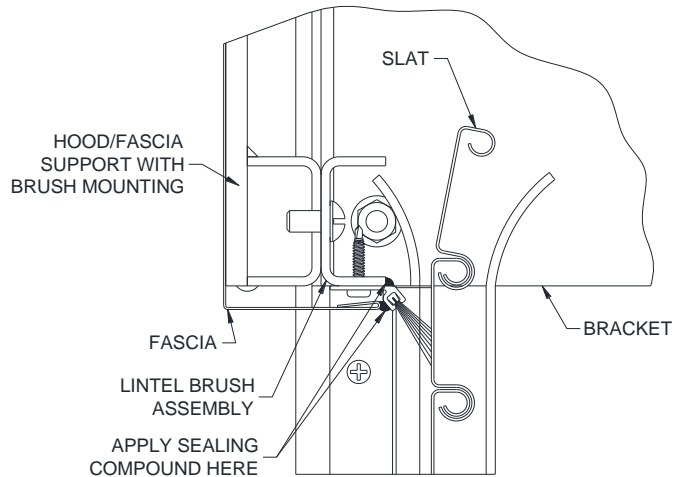

Figure 10.2 - Lintel Brush Channel Mounting to Hood Support
2. If a lintel brush is required, install it at this time. **Figure 10.2** below shows a lintel brush mounting with a hood support with the brush mounting modification.